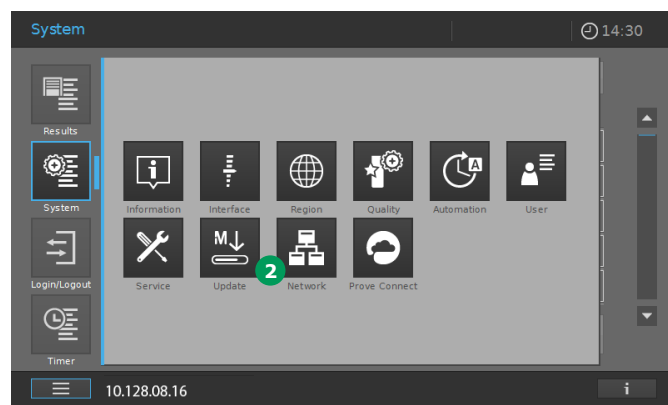

Figure 13 - Screen of Spectroquant® Prove after clicking on "System"
1. To configure the network in the Spectroquant® Prove switch to "Network" **2** (Figure 13) on the Prove's System screen.